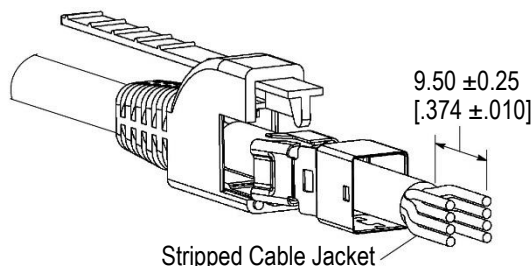

Figure 2
Prior to stripping the cable, make sure to slide the strain relief and shell onto the cable and away from the stripping area. See Figure 2.
1. Strip the cable jacket to 9.50 ± 0.25 mm [$.374 \pm .010$ in.] as shown in Figure 2.